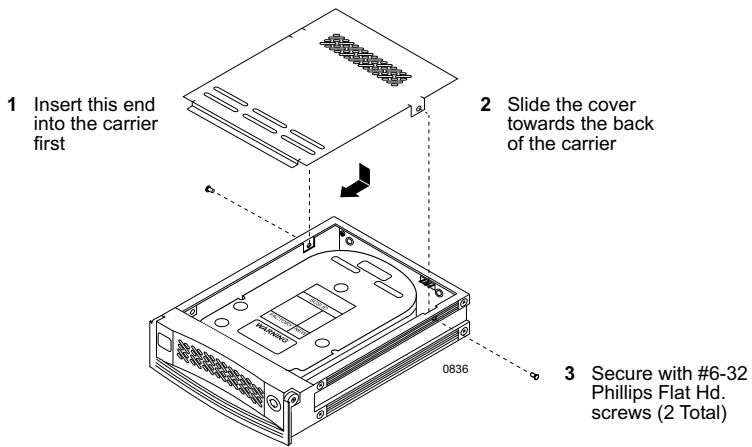

Figure 5: Drive Cover Installation
2. Uninstall the drive cover(s) from the drive carrier(s). Refer to Figure 5.
6. Reinstall the provided drive cover (Figure 5).